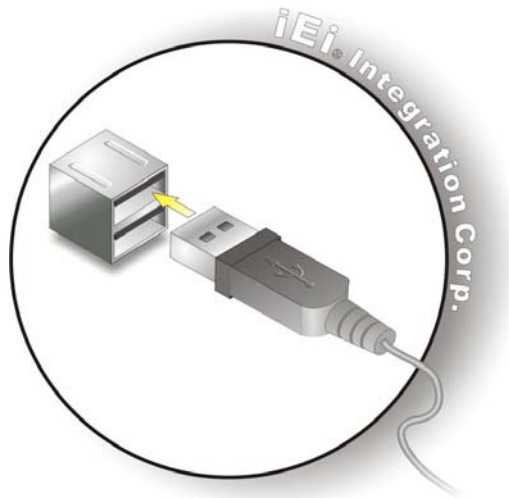

Figure 3-39: USB Device Connection
Step 2: Align the connectors. Align the USB device connector with one of the connectors. See **Figure 3-39**.